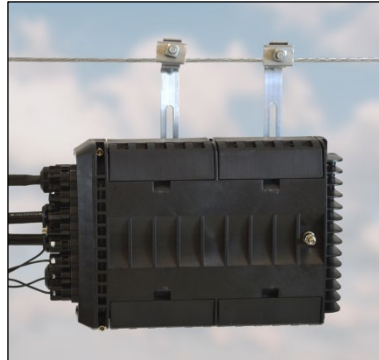

Figure 9
6. Tighten the clamps around the strand to suspend the FSDC-G (Figure 9). The tap brackets can accommodate strands of 1/4" to 3/8" diameter.